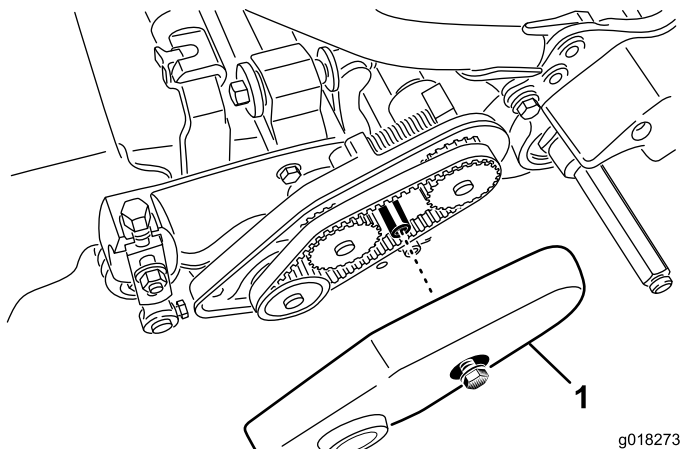

Figure 41
1. Loosen the flange bolt securing the belt cover and remove the belt cover to expose the belt (Figure 41).